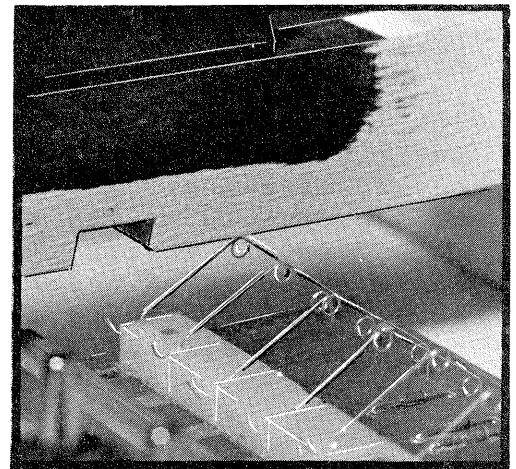

FIGURE 3-11 Notched key bottom.
2. If there are depressions, such as notches (see FIGURE 3-11) or holes, in the bottoms of the Keys, verify that none of the switches are centered beneath these depressions. If necessary, adjust the position of the Key Switch Rail so the switches are under the flat of the Key bottom. Recheck the centering of the Key Switches under their respective Keys, if the rail was moved.